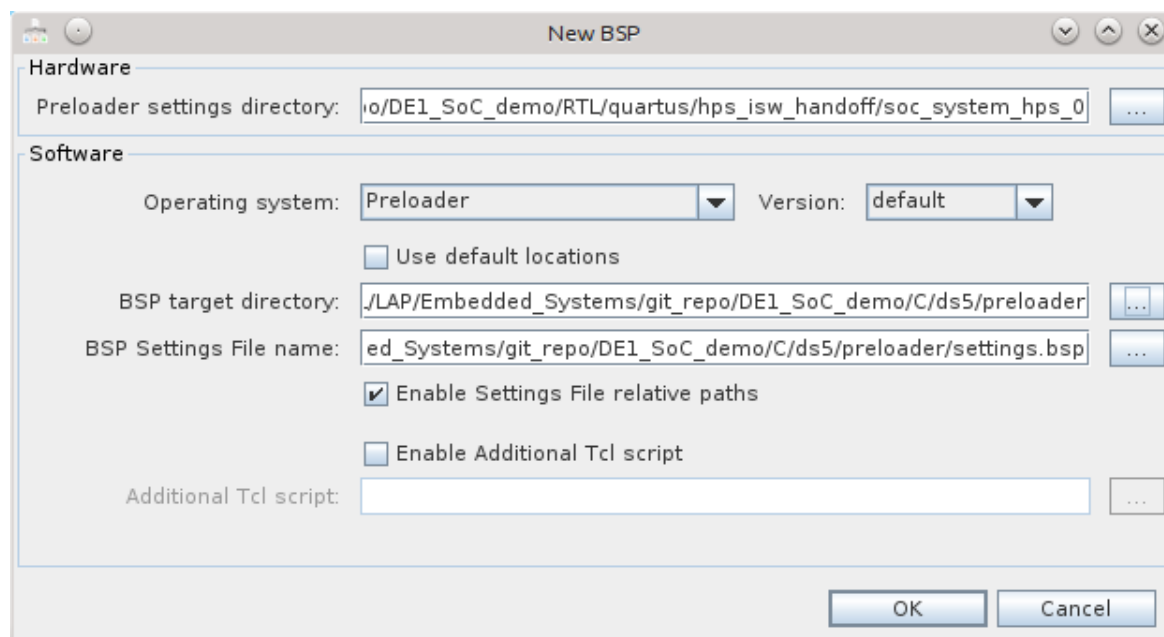

Figure 7-19. New BSP Dialog
- b. Disable the “Use default locations” checkbox and under the “BSP target directory”, select the “DE1_SoC_demo/C/ds5/preloader” directory. You should have something similar to Figure 7-19.